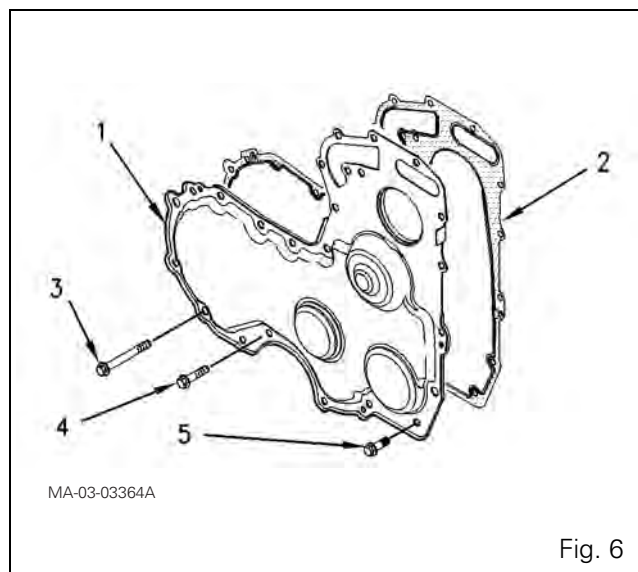

Fig. 6
42. Fit the seal (2) (Fig. 6) on the cover plate.
- NOTE:** The seal is fitted on the cover plate using the three dowel pins (7).
43. Position the cover plate (1) and the seal (2) on the engine sump. Fit screws (3) in holes (8) and screws (5) in holes (9).
44. Take the two guide studs out of the holes (6). Fit the remaining screws (4). Tighten the screws by hand.